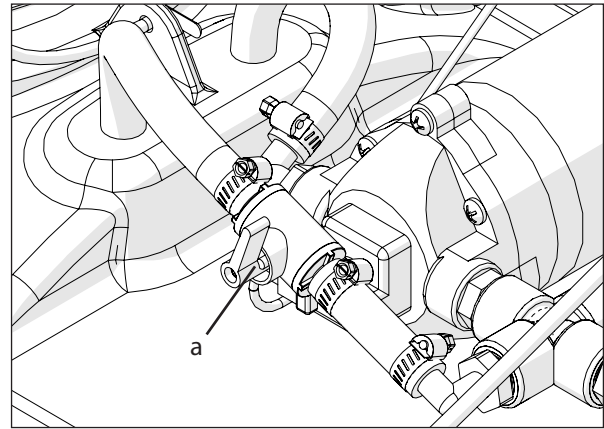

Figure 9: Setting the Bypass valve
2. Open the bypass valve (a) completely (Figure 9). The handle should be parallel to the valve (shown in closed position).